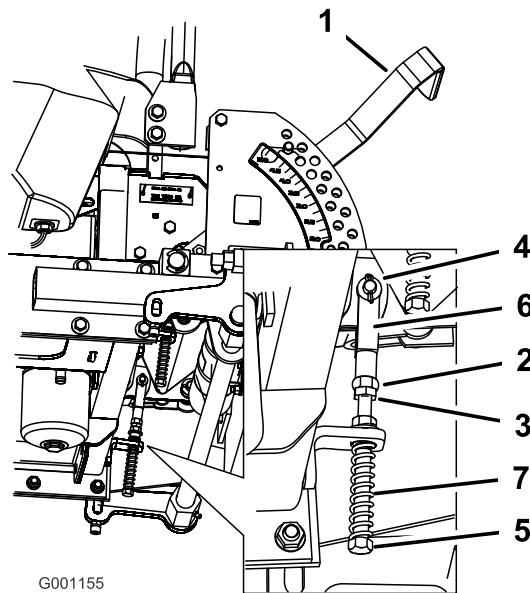

Figure 67
8. If adjustment is needed, loosen the nut and jam nut against the yoke (Figure 67).
9. Apply slight rearward pressure on the motion-control lever, turn the head of the adjustment bolt in the appropriate direction until the control lever is centered in the NEUTRAL-LOCK position (Figure 67).
10. Tighten the nut and jam nut (Figure 67).